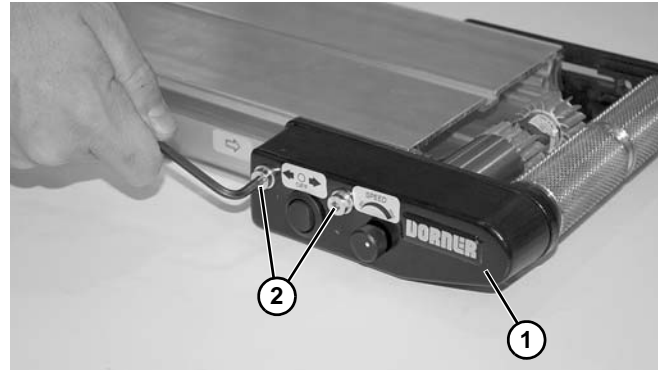

**Figure 124**
4. Using an arbor press or similar device, press bearing onto pulley shaft (**Figure 124**).